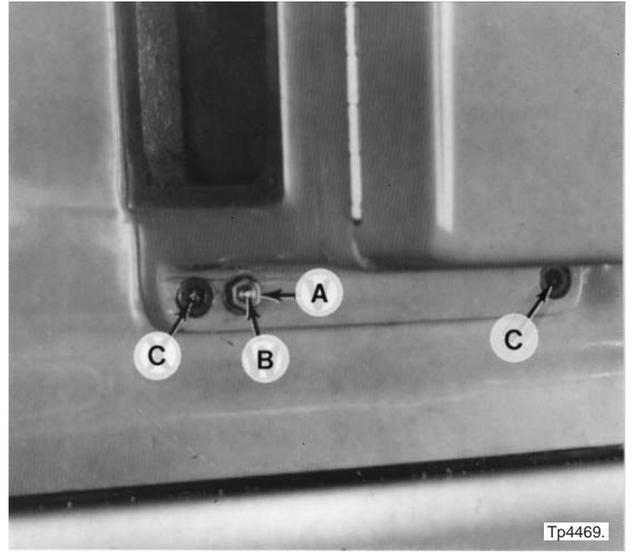

Figure 4.13 - Locating Pins and Mounting Bolts
14. Turn nut "A", Figure 4.13, clockwise to remove dowel pin "B".
15. Remove four screws located at "C", Figures 4.13 and 4.14 .